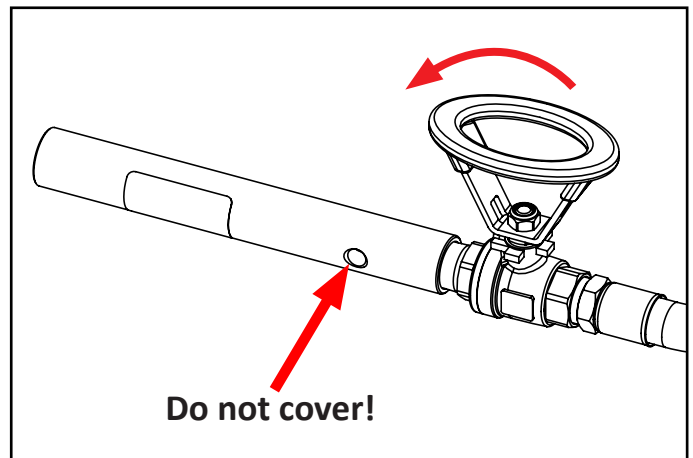

Fig. 7.2: Airless foam wand with open valve.
3. Open ball valve on spray wand [Fig. 7.2]